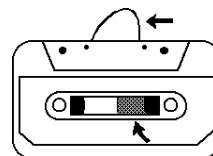
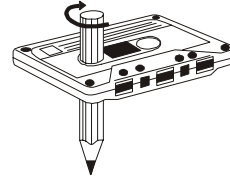

Fig.1
Fig. 2
- Check that there are no loose layers of tape visible through the cassette center window (see Fig. 1). Take up any loose layers, using a pencil or hexagonal barrelled ballpoint pen, before inserting the cassette into the machine (see Fig. 2).
- If the cassette feels “tight” while performing operation shown (see Fig. 2), the tape may be jamming due to “ridges” formed in the winding of the tape (visible through the center window). These may be removed, in most cases, by fast winding of the cassette from one end to the other and back again.